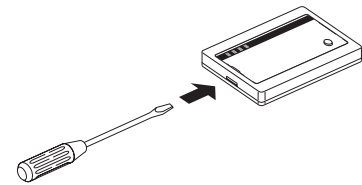

Fig. 8-2
- (1) Put a flathead screwdriver or the like into the groove on the bottom of the receiver unit and twist it to remove the bottom of the case. (Fig. 8-2)